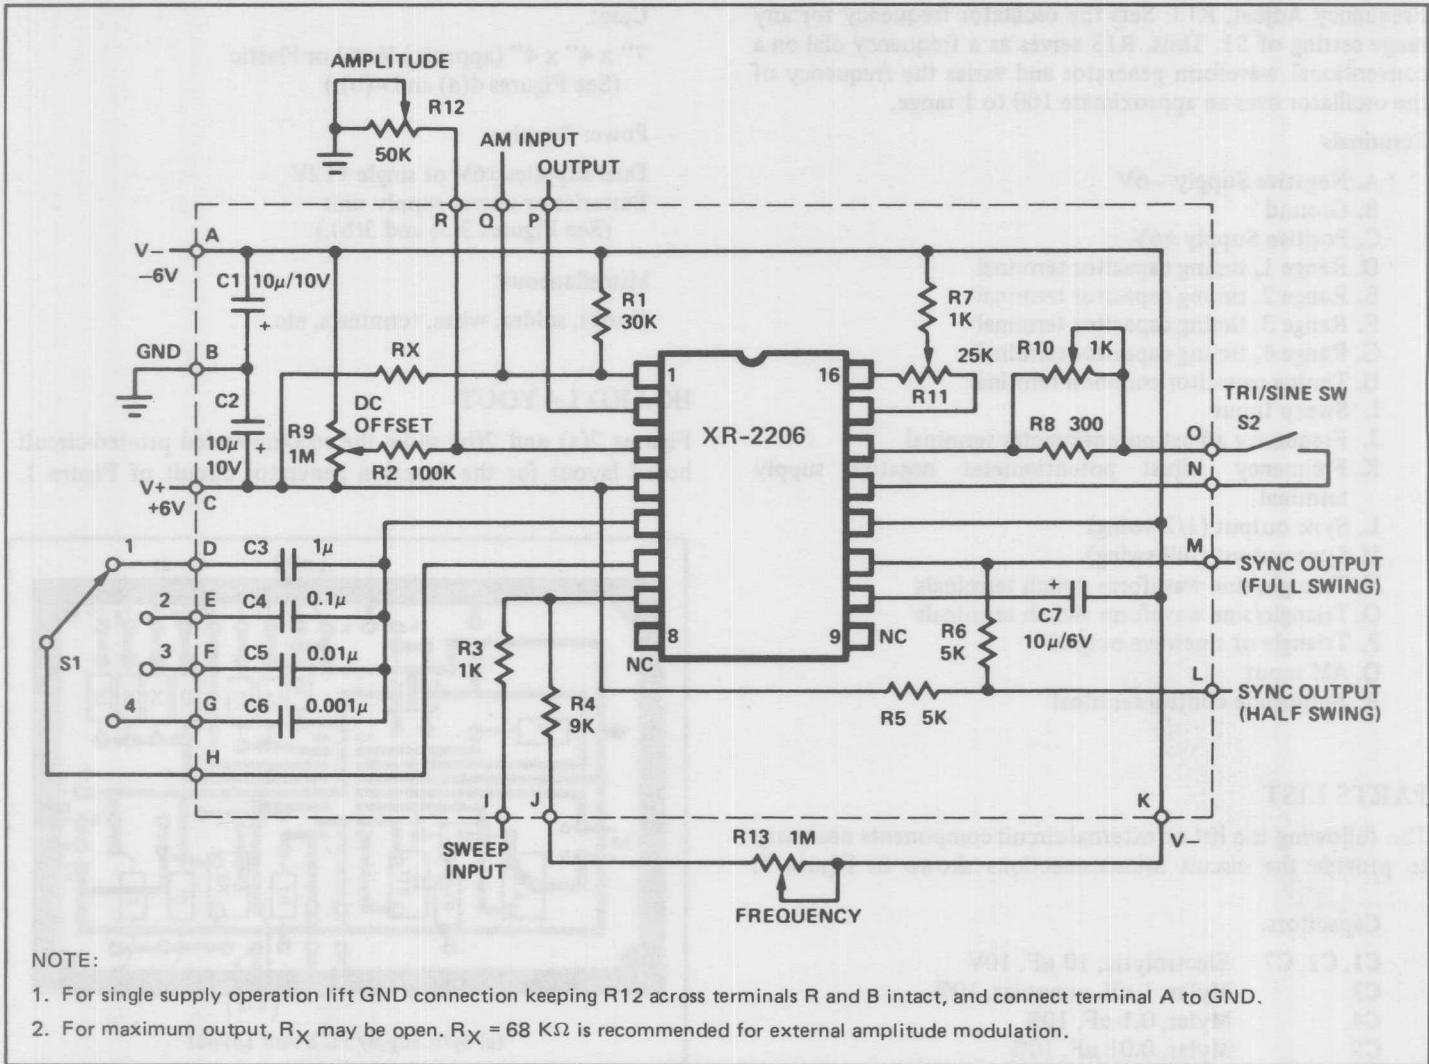

Figure 1. Circuit Connection Diagram for Function Generator. (See Note 1 for single supply operation.)
The circuit configuration of Figure 1 provides three basic waveforms: sine, triangle and square wave. There are four overlapping frequency ranges which give an overall frequency range of 1 Hz to 100 kHz. In each range, the frequency may be varied over a 100:1 tuning range.
The performance characteristics listed below are not guaranteed or warranted by Exar. However, they represent the typical performance characteristics measured by Exar's application engineers during the laboratory evaluation of the function generator system shown in Figure 1. The typical performance specifications listed below apply *only* when all of the recommended assembly instructions and adjustment procedures are followed:
- (b) **Frequency Setting:** At any range setting, frequency can be varied over a 100:1 tuning range with a potentiometer (see R13 of Figure 1).
The above expression is accurate to within  $\pm 5\%$  at any range setting. The timing resistor R is the series combination of resistors R4 and R13 of Figure 1. The timing capacitor C is any one of the capacitors C3 through C6, shown in the figure.
- (d) **Sine and Triangle Output:** The sine and triangle output amplitudes are variable from 0V to 6 Vpp. The amplitude is set by an external potentiometer, R12 of Figure 1. At any given amplitude setting, the triangle output amplitude is approximately twice as high as the sinewave output. The internal impedance of the output is 600Ω.
- (f) **Sync Output:** The sync output provides a 50% duty cycle pulse output with either full swing or upper half swing of the supply voltage depending on the choice of sync output terminals on the printed circuit board (see Figure 1).
- (g) **Frequency Modulation (External Sweep):** Frequency can be modulated or swept by applying an external control voltage to sweep terminal (Terminal I of Figure 1). When not used, this terminal should be left open-circuited. The open circuit voltage at this terminal is approximately 3V above the negative supply voltage and its impedance is approximately 1000 ohms.
- (h) **Amplitude Modulation (AM):** The output amplitude varies linearly with modulation voltage applied to AM input (terminal Q of Figure 1). The output amplitude reaches its minimum as the AM control voltage approaches the half of the total power supply voltage. The phase of the output signal reverses as the amplitude goes through its minimum value. The total dynamic range is approximately 55 dB, with AM control voltage range of 4V referenced to the half of the total supply voltage. When not used, AM terminal should be left open circuited.